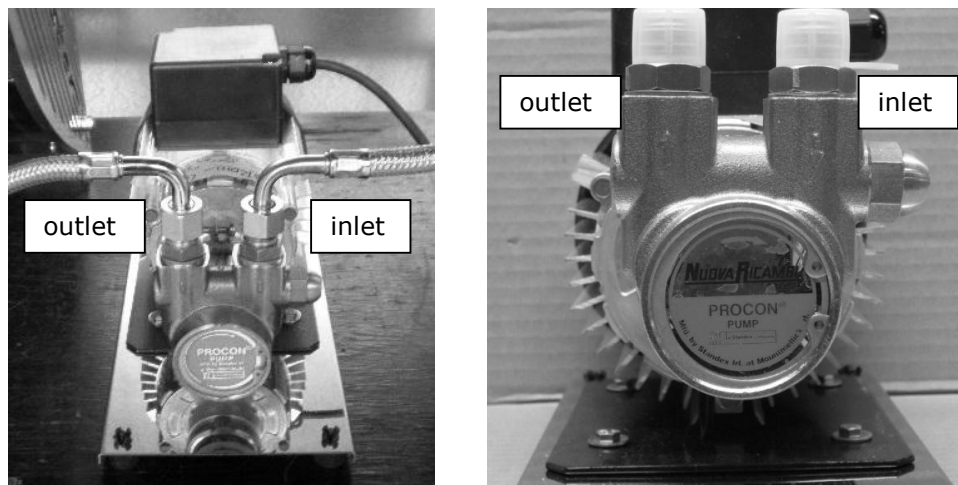

Figure 3. Pump with inlet and outlet shown.
5. Attach the other end of the short high pressure hose to the inlet of the pump. **Beware!** The inlet of the pump is marked with an arrow pointing down, towards the pump-housing (see figure 3). Tighten with 20 mm spanner.
6. Attach the second long high pressure hose to the outlet of the pump. **Beware!** The outlet of the pump is marked with an arrow pointing upwards, away from the pump-housing (see figure 3). Tighten with a 20 mm spanner.